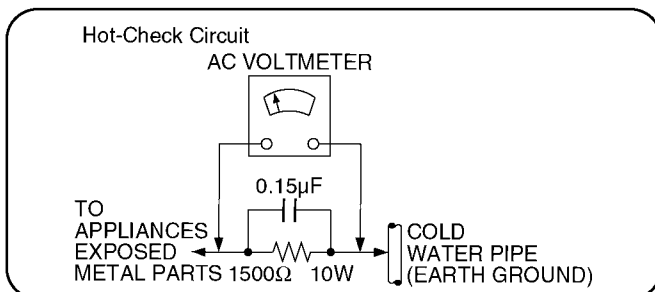

Figure 1
### 1.1.2. Leakage current hot check (See Figure 1.)
2. Connect a  $1.5k\Omega$ , 10 watts resistor, in parallel with a  $0.15\mu F$  capacitors, between each exposed metallic part on the set and a good earth ground such as a water pipe, as shown in Figure 1.